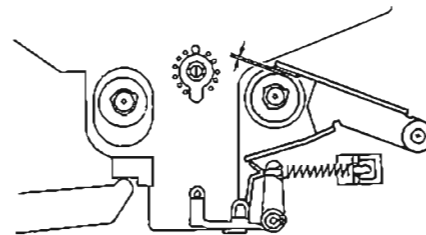
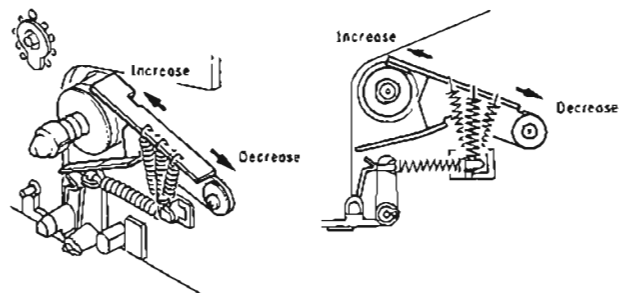

Fig. 2.14
Fig. 2.15
- (4) Set the cassette deck in Stop mode, and remove the Tension Arm Adjustment Cassette (DA09056B), then set the cassette deck in Cue mode. In Cue mode, check to insure that the gap is found between the Supply Reel Hub B Ass'y and the Felt of Back Tension Ass'y as shown in Fig. 2.14.
- (5) Load the Back Tension Gauge (DA09056B) in the cassette deck.
- (6) Set the cassette deck in Play mode and read the torque value of Back Tension Gauge. If the value is in a range of 5 g-cm to 9 g-cm, adjustment is not necessary. If not, change the installation point of the Back Tension Spring as shown in Fig. 2.15, and obtain the torque of 6 g-cm to 8 g-cm range.